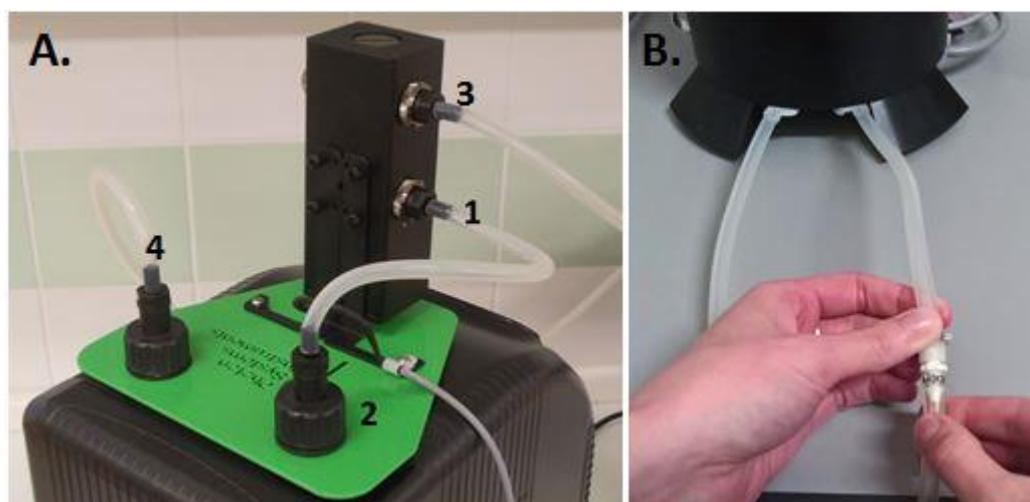

Fig. 12 A) Connection of cooling unit tubing. B) Interconnection of cooling unit and TL measuring unit.
4. Connect the short 20 cm silicon hose to the **lower port** (Fig. 12A1) on the right side of the water pump. Connect the second end of the 20 cm tubing to the right top input of the water chiller (Fig. 12A2).
5. Connect long silicon hose to the **upper port** (Fig. 12A3) on the right side of the water pump. Same long silicon hose connect to the **Hailea port** (Fig. 12A4)